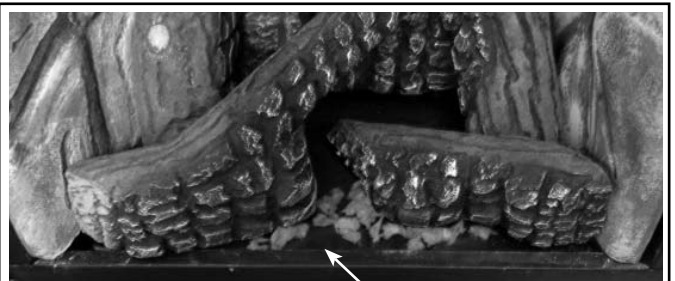

Figure 49 - Ember Placement DO NOT place ember material directly over the ember burner ports.
6. Ember Placement - Separate the Embers (rockwool) into pieces about the size of a quarter (see Figure 43). Keep the pieces fluffed up, not matted. Distribute these pieces over the surface of the burner, as shown in Figure 49. Do not use more than is necessary. **Ensure that the main burner ports remain uncovered by the ember material (see Figure 43).**